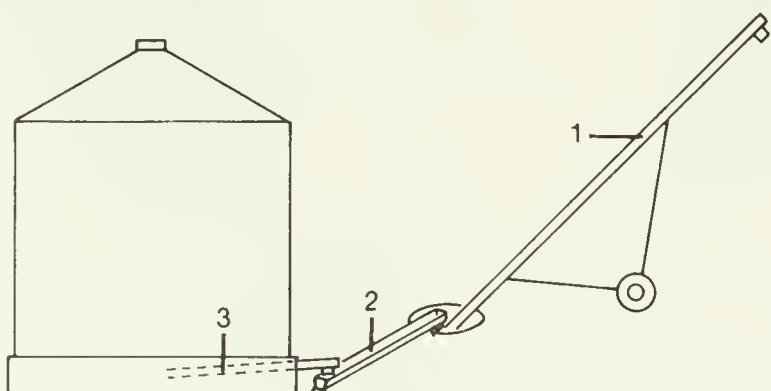

FIGURE 28 Sequencing
The inclined auger (1) in Figure 28 should be started first, then the horizontal conveyor (2) and finally the underfloor auger (3). At shutdown, the sequence reverses.